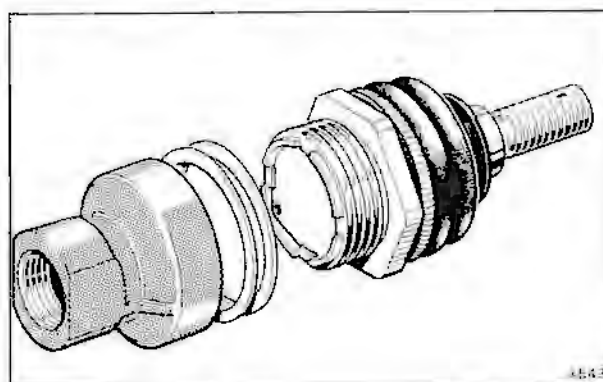

Fig. H4-5 Damper ball joint assembly
5. Unscrew the ball pin assembly from its housing, taking care not to damage the protective rubber boot. Collect the pre-load adjustment shims (see fig. H4-5).